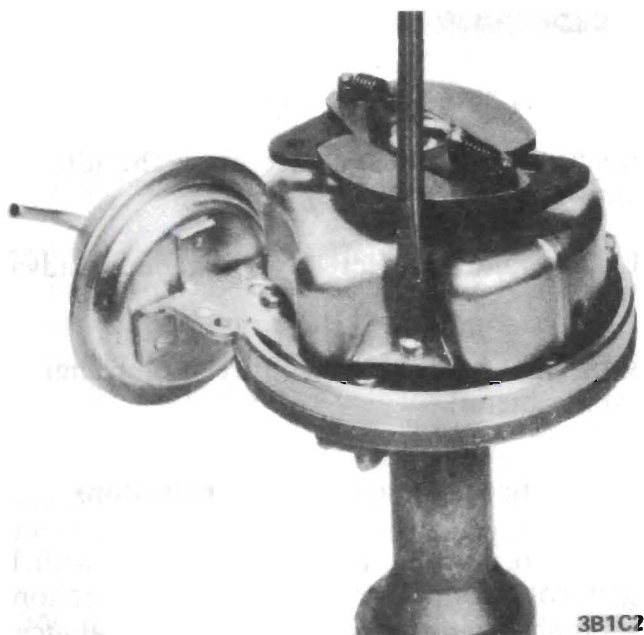

Figure 1C-2 Removing Shield Screws
3. Remove ignition point shield. See Figure 1C-2.